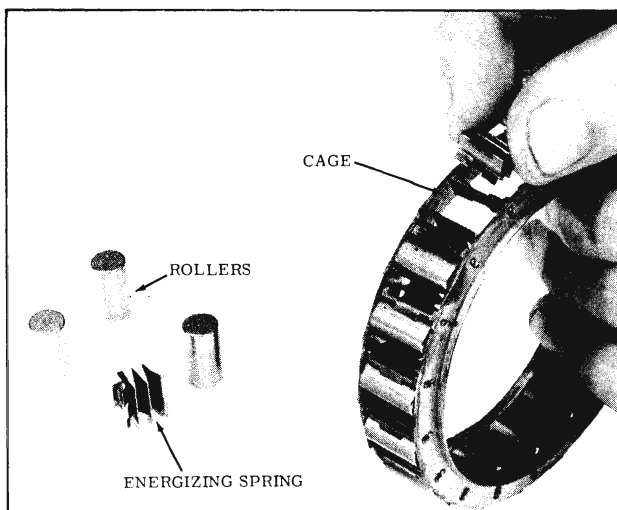

Fig. 3-85 Removing Energizing Spring
3. Remove the rollers and energizing springs from the cage. (Fig. 3-85)